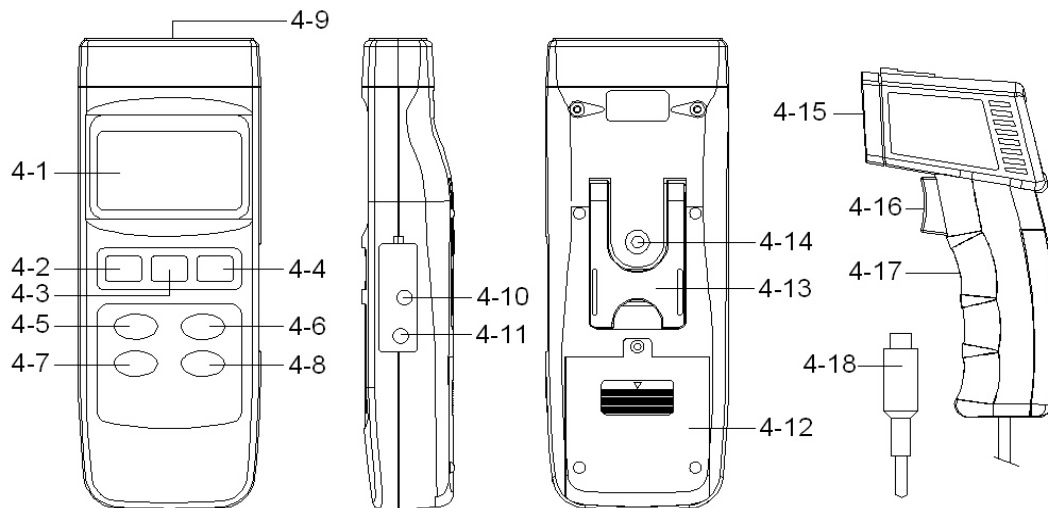

Fig. 1
- 1) Connect the " Probe plug " (4-17, Fig. 1) to the " Input socket " (4-9, Fig. 1).
- 2) Switch ON the meter by pressing the " Power button " (4-2, Fig. 1), the display will show zero value both for RGB unit.
- 3) Use the hand to hold " Probe handle " (4-17, Fig. 1). Contact the " Color sensor head " (4-15, Fig. 1) close to the measurement sample firmly.
Press the " OP button " (4-16 or 4-3, Fig. 1) once, the display will show the symbol " Mesu ", waiting few seconds the display will show R,G,B value. After the R,G,B value present on the LCD, the measuring procedures are finished, the hand can move away from the probe handle.
If intend to get the H,S,L (Hue, Saturation, Luminance) value, just press the " RGB/HSL button " (4-7, Fig. 1) once, the display will show H,S,L value.
For no lighting sample color measurement, when press the " OP button " (4-16 or 4-3, Fig. 1) once, the " Color sensor head " (4-15, Fig. 1) should turn on the white light.
- b. Press the 'LIGHT ON/OFF button " (4-8, Fig. 1) once.
- 1) Press the " OP button " (4-16 or 4-3, Fig. 1) once to check if the " Color sensor head " already switch off the white light.
- 2) Power ON the meter, use the hand to hold " Probe handle " (4-17, Fig. 1). Contact the " Color sensor head " (4-15, Fig. 1) close to the measurement lighting sample firmly.
- 3) Press the " OP button " (4-16 or 4-3, Fig. 1) once, the display will show the symbol " Mesu ", waiting few seconds the display will show R,G,B value. After the R,G,B value present on the LCD, the measuring procedures are finished, the hand can move away from the probe handle.
If intend to get the H,S,L value, just press the " RGB/HSL button " (4-7, Fig. 1) once, the display will show H,S,L value. Press the " RGB/HSL button " once again, display will return to R,G,B value.
- 1) During the measurement, after the display show R,G,B value (H,G,L value), if press the " REL (Relative) button " (4-6, Fig. 1) once, the display will show zero value with flashing.
- 2) If make the new measurement (same as chapter 5-1), then press the " OP button " (4-16 or 4-3, Fig. 1) once, the display will show the relative difference color value (new color value deduct the original color value) with flashing.
- 3) Press the " REL (Relative) button " (4-6, Fig. 1) once again, the display will return to normal function.
- 3) Use the hand to hold " Probe handle " (4-17, Fig. 1).
Contact the " Color sensor head " (4-15, Fig. 1) close to the " White color calibration card " firmly.
- 4) Press both the " Function button " (4-4, Fig. 1) and " CAL button " (4-5, Fig. 1) once a while.
The instrument has RS232 PC serial interface via a 3.5 mm terminal (4-10, Fig. 1).